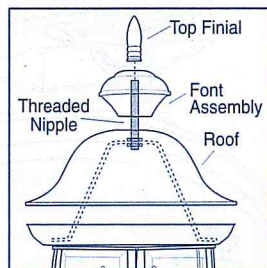

Figure 3
- For harp assembly roofs, unscrew top finial to remove font assembly and roof from threaded nipple. Insert bulbs. Reattach roof, font assembly and top finial (see figure 3).